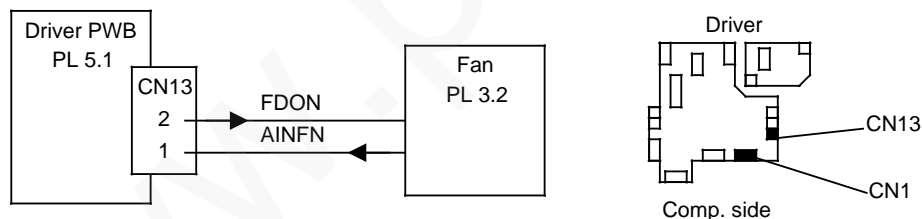

Figure 1. Fan control
5. Measure the voltage at the driver PWB to ground (figure 1).